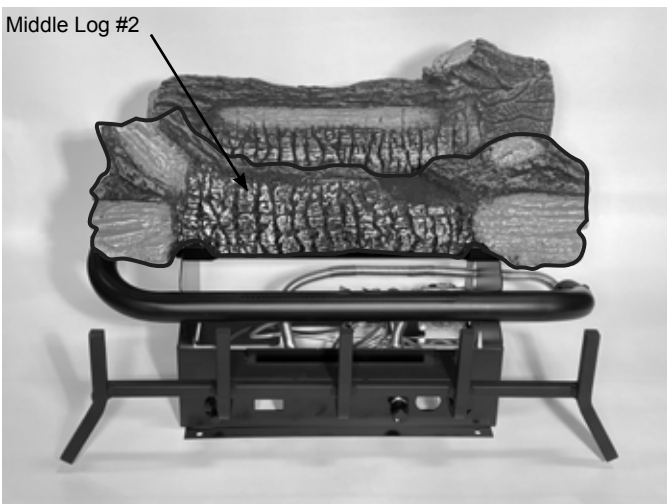

Figure 6.7 - Place Middle Log
2. Place Middle Log (#2) on middle support. Figure 6.7